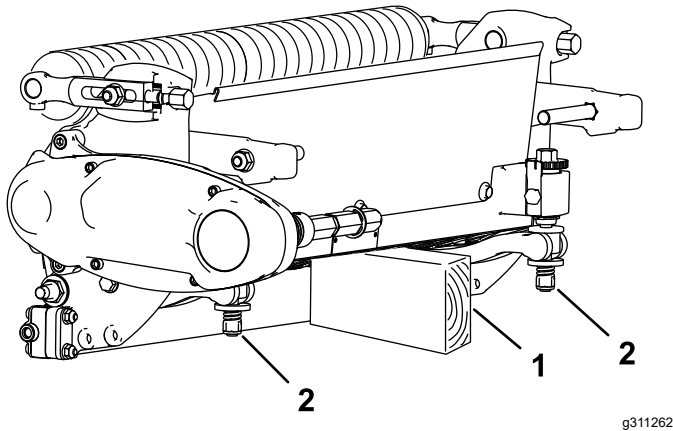

Figure 11
- With the cutting unit removed from the machine, prop up the rear of the cutting unit to ensure that the nuts on the back end of the bedbar adjusting screws are not resting on the work surface (Figure 11).